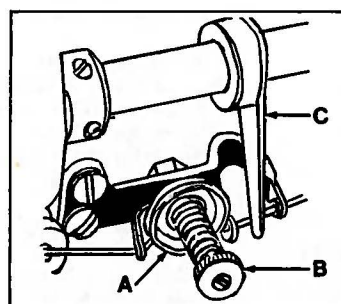

FIGURE 24
Spreader thread is controlled by the tension discs (A, Fig. 24) mounted on the back side of the head. Tightening or loosening the nut (B) adjusts the tension. Approximately 1/2 to 1 ounce (14.18 or 28.35 gr.) of tension is required. The strike off lever (C) should barely contact the thread in its lowest position.